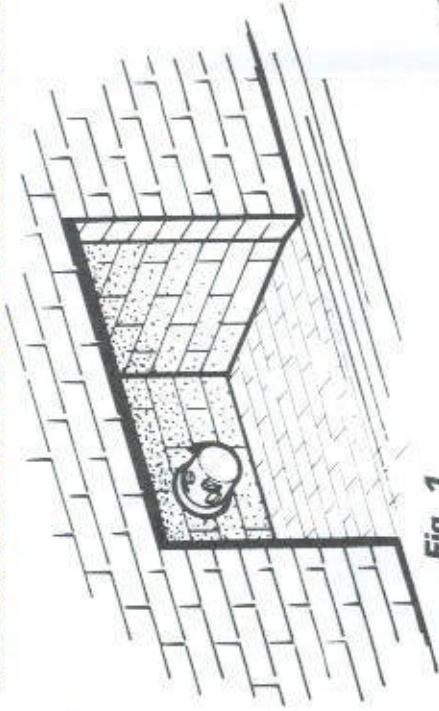
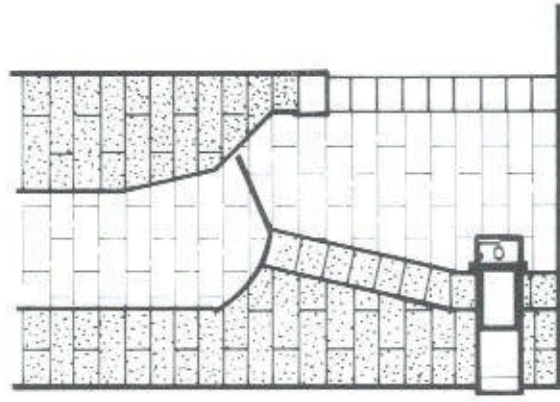

Fig. 1
Fig. 2
**Fig. 1:** Install AIR VENT horizontally in the closed position with the middle of the slot on top and centered on the back wall (preferred) or a side wall of any conventional masonry fireplace, not more than 4" (10.2cm) from the floor of the fireplace to the bottom of the hole (as illustrated in fig.2) *Hole for AIR VENT is approximately 4 1/4" (11.4cm) in diameter.*
**Fig. 2:** Extend AIR VENT from fireplace position to an outside wall with 4" (10.2cm) galvanized pipe. **Maintain a 1" (2.5cm) minimum clearance to any combustible construction.** Use furnace cement to seal joint between fireplace wall and vent flange.